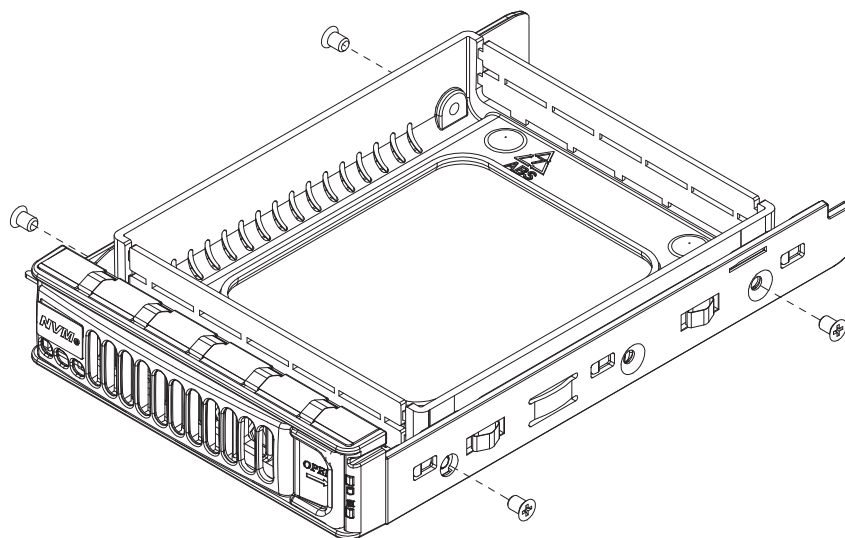

Figure 3-9. Removing a Dummy Drive from the Drive Carrier
3. Remove the dummy drive from the carrier (Figure 3-9).